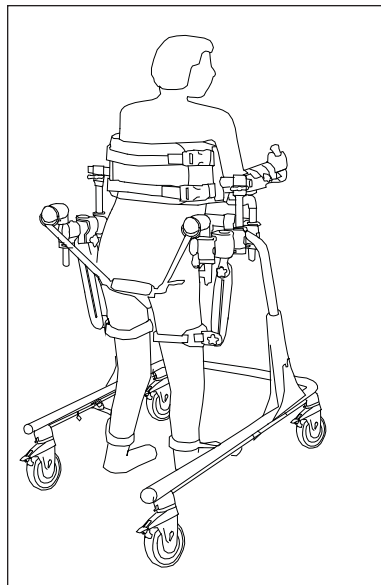

Figure 33
Forward facing (see Figure 33)
- Use the chest prompt tilt adjustment (see Figures 33, 34 and 35).